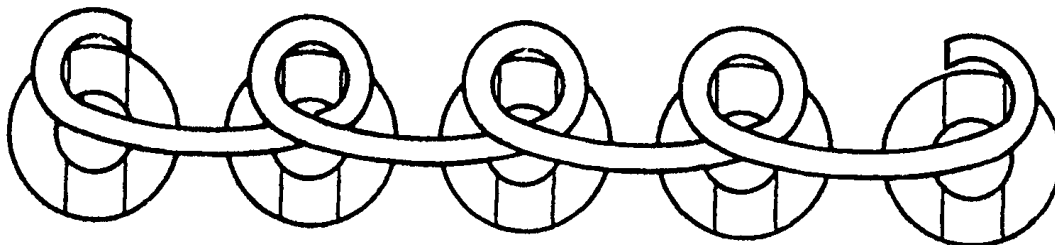

Figure 9-8. Continuous Run Wrapping--Bifurcated Terminals
4. **Continuous Run Connections.** When a series of terminals are to be connected to each other, such interconnections shall be made with a solid wire in accordance with Figure 9-8 or 9-9. The wire shall be attached to the first and last terminal in accordance with paragraph 9.3-2.